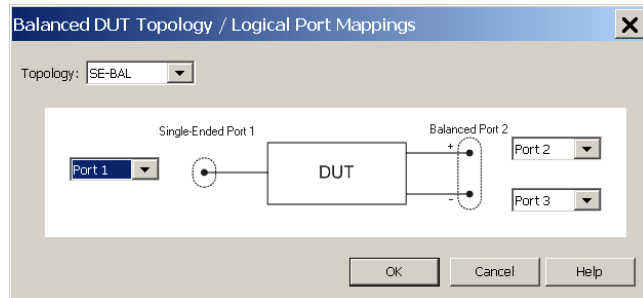

Figure 8 Logical Port Mapping for OE measurement
For OE measurements the single- ended (SE), logical port 1 is assigned to physical port 1 and the balanced (BAL), logical port 2 is assigned to the physical ports 2 and 3 (see Figure 8 on page -111).